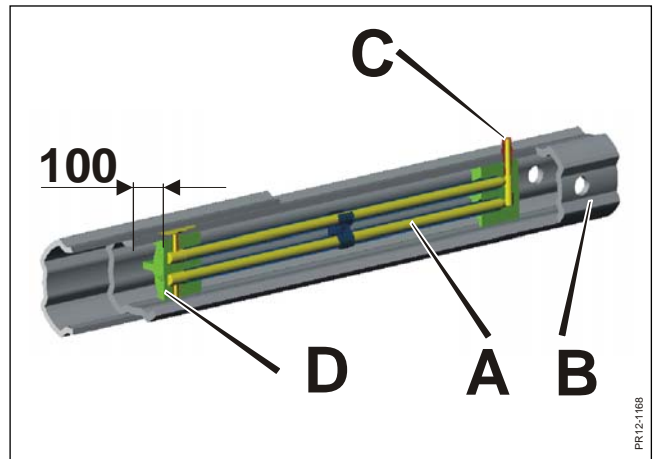

Fig. 2-10
**Fig. 2-10** The PTO shaft has an internal greasing system **A** which makes it possible to grease the profile tubes **B** at **C** without disassembling the shaft. Due to this greasing system you can shorten the shaft 100 mm maximum, which is the distance to the grease bush **D**. In extreme cases where further shortening is necessary, you have to shorten at the other side of the bush, and the greasing system must be dismantled. After this the tubes are greased by disassembling the 2 half parts.